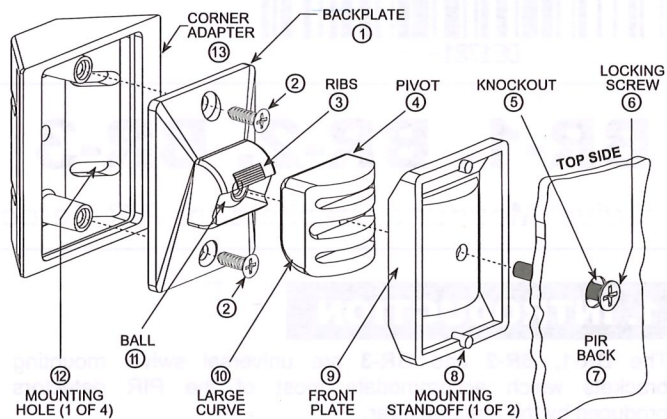

Figure 3. BR-2 - Construction and Assembly
3.2 Installing the BR-2 (Figure 3)